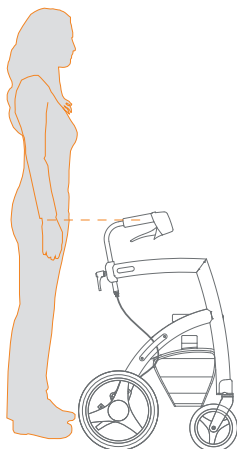

Figure 12: Determine the correct height.
Setting the correct height (**Figure 12**) is crucial for an optimal use of the Rollz Motion. The height can be adjusted in between the minimum and maximum positions. This way the Rollz Motion can easily be adapted to individual needs.
- c.** To determine the correct height, stand between the Rollz Motion handles with your arms hanging near the body. The handles should be at the height of your wrists (**Figure 12**).